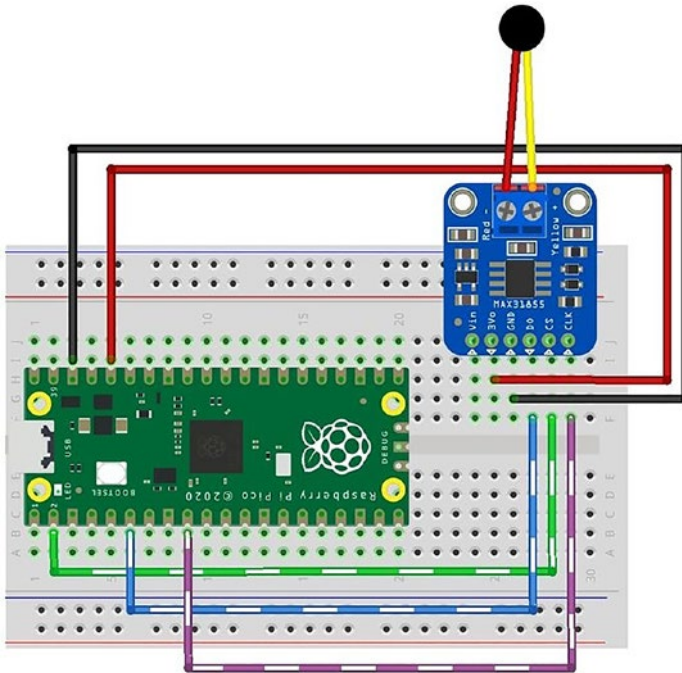

Figure 4-6. Wiring the Adafruit Thermocouple module
Now, let's see how to wire the breakout board to our Pico. We will use only five wires since we are only reading data from the sensor on the breakout board. This requires a connection to power, ground (GND), the master input (MOSI), clock (CLK), and chip select (CS). We only receive information from the sensor, so the MISO (transmit) pin isn't needed. Figure 4-6 shows the connections.